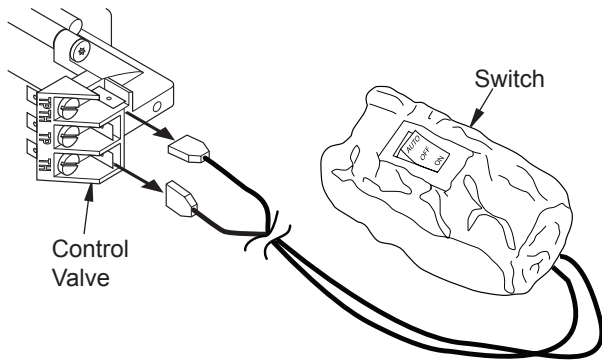

Figure 17- Disconnecting Switch from Control Valve
6. If installed, disconnect AUTO/OFF/ON switch wire from control valve at TPTH and TH locations (see Figure 17).
7. Connect wires from hardware pack (with remote receiver bracket) to control valve at the TPTH and TH locations as shown in Figure 17. Connect other ends of these wires to remote receiver wires.